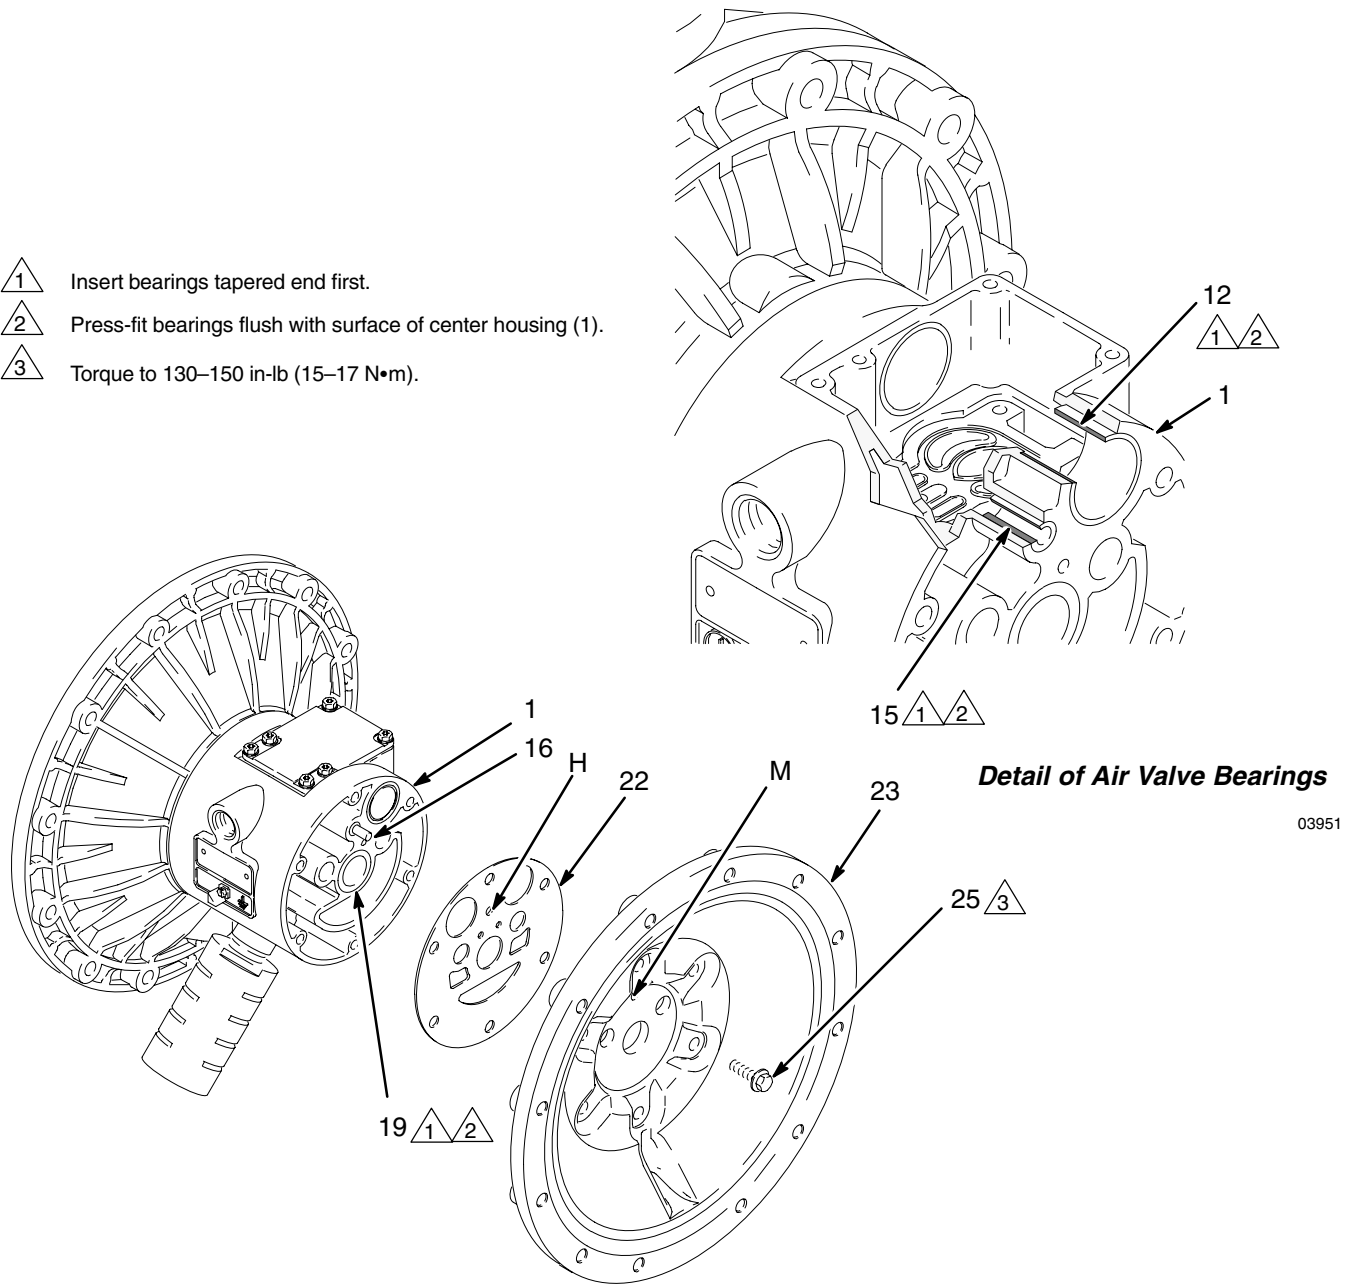

Fig. 14
- NOTE:** If you are removing only the diaphragm shaft bearing (19), skip step 22.
5. Using a 10 mm socket wrench, remove the screws (25) holding the air covers (23) to the center housing (1). See Fig. 14.
6. Remove the air cover gaskets (22). Always replace the gaskets with new ones.
7. Use a bearing puller to remove the diaphragm shaft bearings (19), air valve bearings (12) or pilot pin bearings (15). Do not remove undamaged bearings.
1. If removed, install the shaft u-cup packings (402\*) so the lips face **out** of the housing (1).
2. The bearings (19, 12, and 15) are tapered and can only be installed one way. Insert the bearings into the center housing (1), **tapered end first**. Using a press or a block and rubber mallet, press-fit the bearing so it is flush with the surface of the center housing.
4. Align the new air cover gasket (22) so the pilot pin (16) protruding from the center housing (1) fits through the proper hole (H) in the gasket.
5. Align the air cover (23) so the pilot pin (16) fits in the middle hole (M) of the three small holes near the center of the cover. Install the screws (25), handtight. See Fig. 14. Using a 10 mm socket wrench, torque the screws oppositely and evenly to 130–150 in-lb (15–17 N•m).